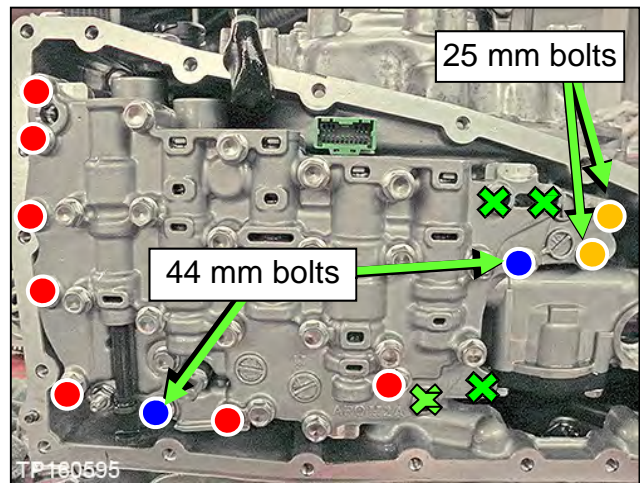

Figure 20
11. Install a new valve body with eleven (11) mounting bolts (Figure 20).